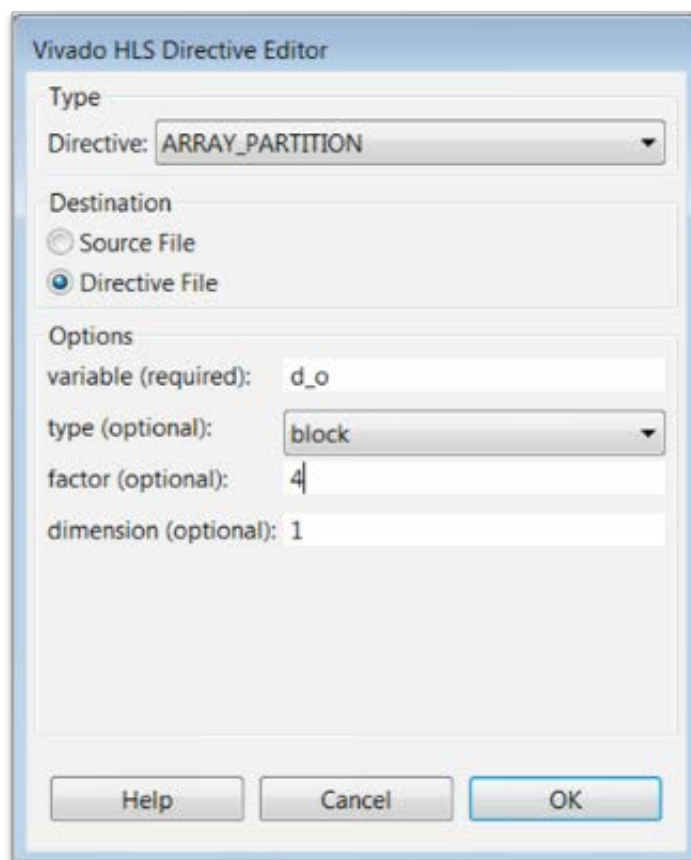

Figure 75: Directives Editor for Partitioning Array d_o
- d. With the Directives Editor as shown in Figure 75, click **OK**.